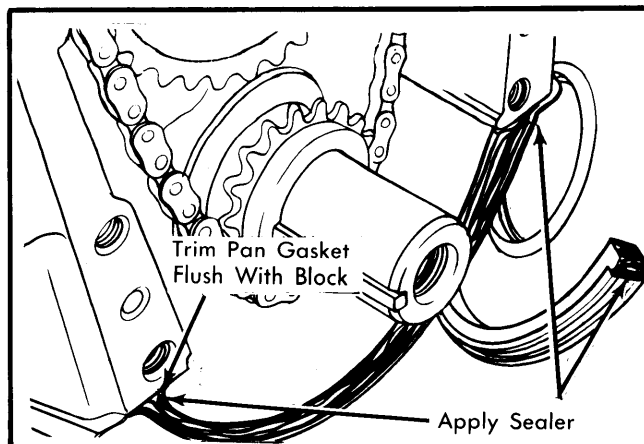
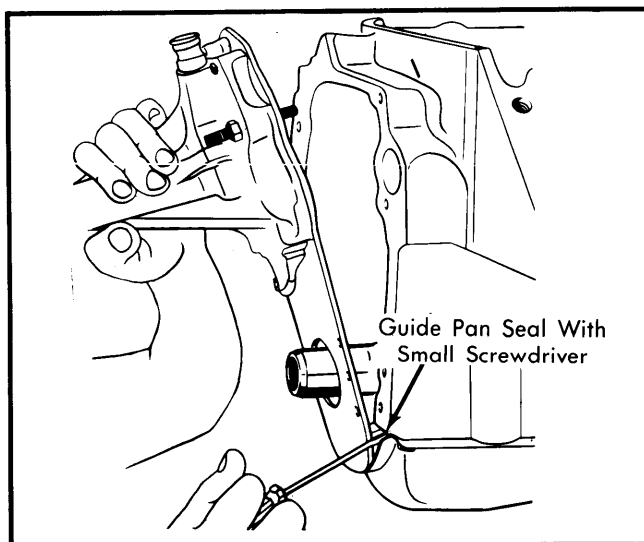

Fig. 7 Installing Pan and Front Cover Seal
Fig. 8 Front Cover Installation
2) Apply suitable sealer at junction of block, pan and front cover. See Fig. 7. Install front cover pressing downward to compress seal. Rotate cover left and right to guide pan seal into cavity using a small screwdriver. See Fig. 8.